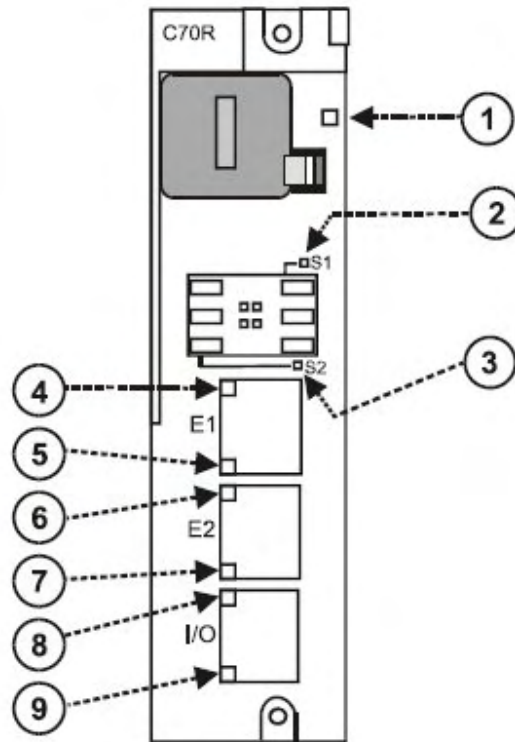

Figure 84 – LED Indicators on Controller CPUs (See Table 27)
When the Controller Status LED (Figure 84 on page 158, item 1) is flashing red, consult Table 28.